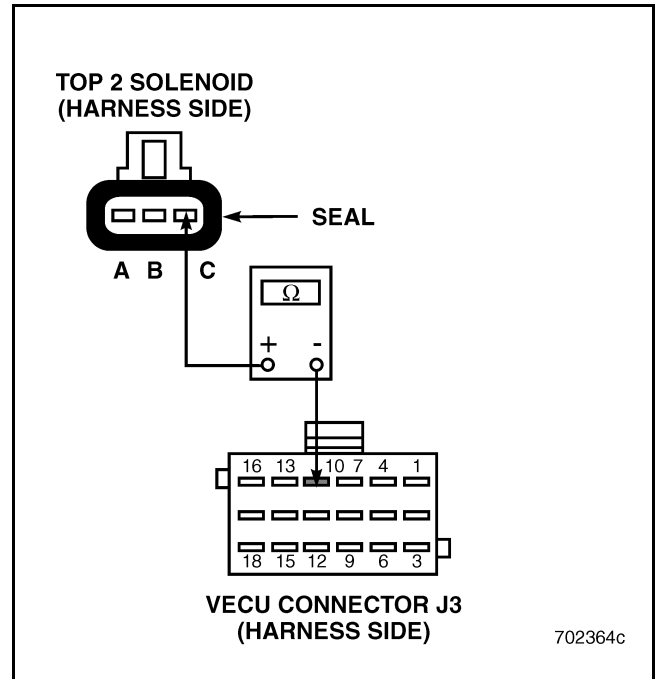

Figure 486
2. Check for continuity between pin C on the harness side of the Top 2 solenoid valve connector and VECU connector J3, pin 10 (see Figure 486).